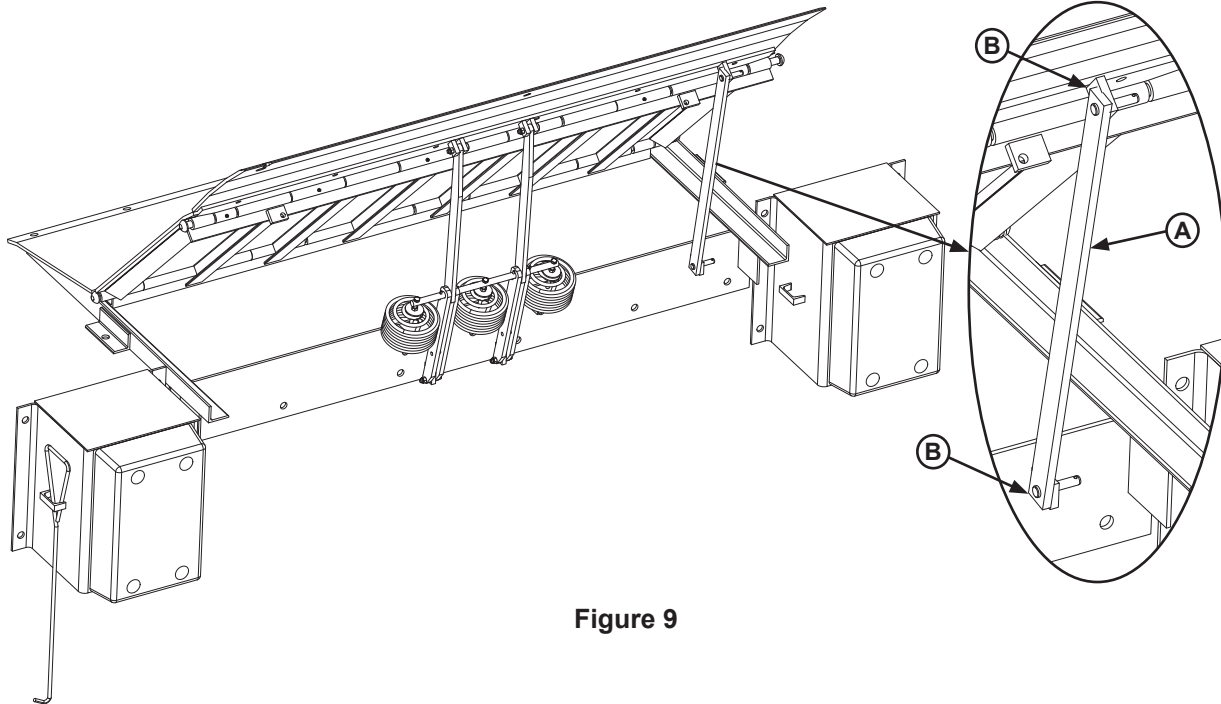

Figure 9
Whenever maintenance is to be performed under the dock leveler, support the dock leveler with the maintenance prop (A). Position the maintenance prop in its support gussets (B). See Figure 9.